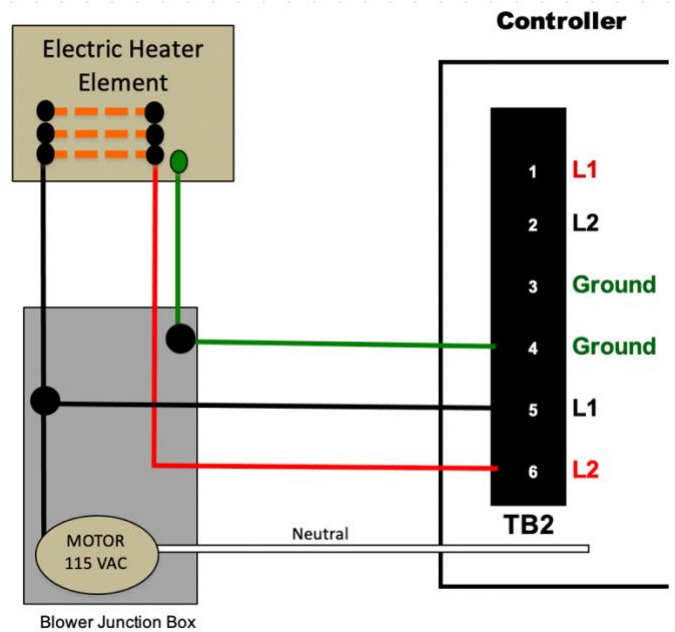

Figure 10
1. Run Romex wire between controller and electric heater element located in the cabinet (see figure 10). **Make sure to install cable clamp into 1/2" knockout hole on heater panel to prevent wire from chaffing.**